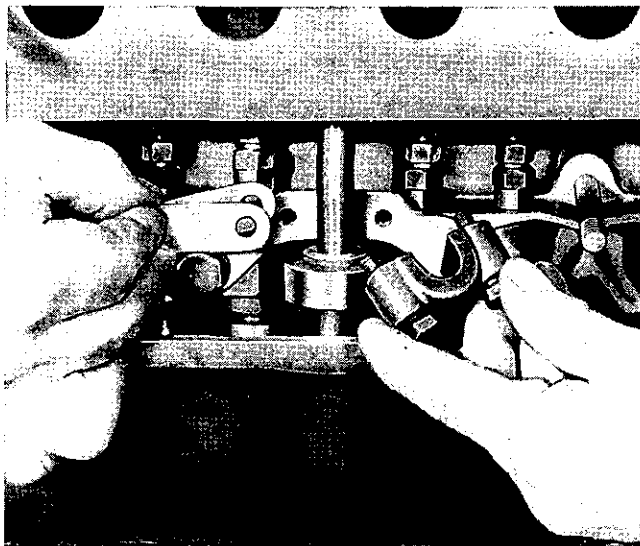

Fig. 27. Showing the fitting of inter abutment bracket and shims to distributor and oil pump drive.
3. Withdraw the two setscrews, which secure the outer abutment bracket to the inner one and remove the latter bracket, taking care not to drop the packing shims, shown in Fig. 27, into the sump ( $\frac{7}{16}$ " A/F Spanner).
26. Remove Distributor Shaft abutment outer bracket with packing shims, after withdrawal of two securing bolts. Note packing shims for reassembly and position of machined portion of bracket towards skew gear with .003 gap. *Shims should be just sufficient to provide a clearance between shaft and bracket.* ( $\frac{7}{16}$ " A/F Spanner). (See Fig. 27.)